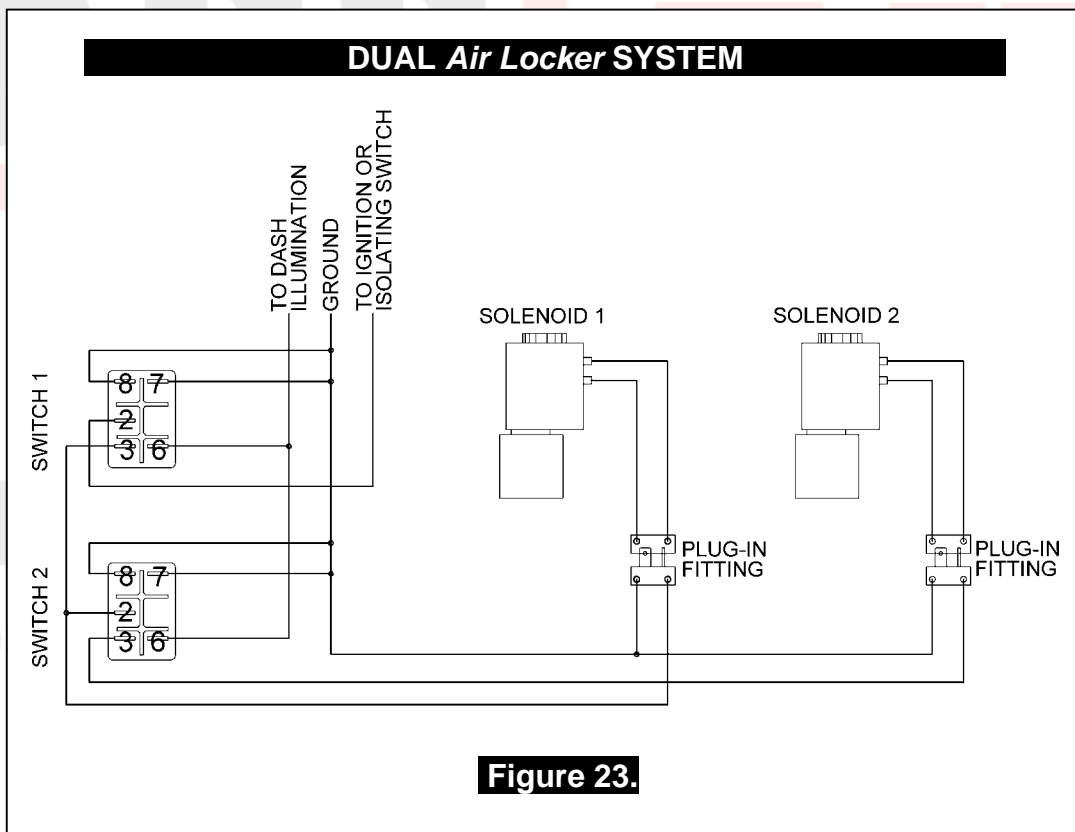

Figure 23.
- If two *Air Lockers* are to be installed in the system, ARB recommends that the switches and solenoids be wired according to figure 23. For safety reasons, this configuration allows SOLENOID 2 to be actuated only if SOLENOID 1 is already on.